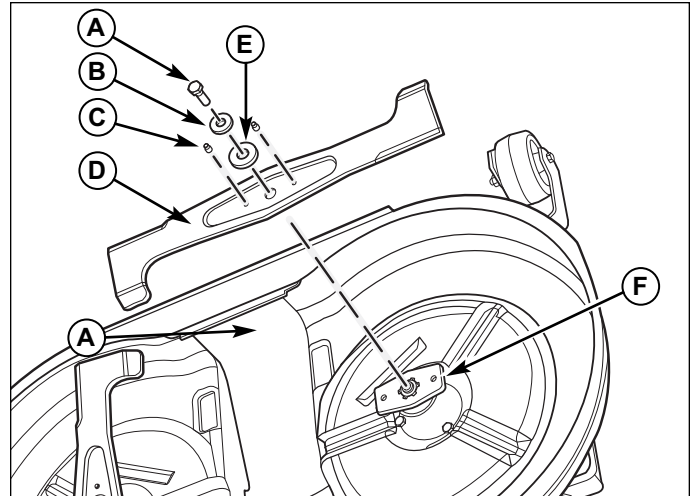

Figure 24. Blade Installation
3. Remove the capscrew (A, Figure 24), spring washer (B), spline washer (E), alignment pin (C) and blade (D). Do not remove the blade adapter (F).
8. Reinstall the spline washer (E, Figure 24), spring washer (B) and capscrew (A). Use a wooden block to prevent blade rotation while tightening the capscrew (A) 30 +/- 3 Nm.
4. Remove the capscrew (A, Figure 24), spring washer (B), and spline washer (E).
6. Reinstall the alignment pin (C, Figure 24), spline washer (E), spring washer (B) and capscrew (A). Use a wooden block to prevent blade rotation while tightening the capscrew (A) 30 +/- 3 Nm.